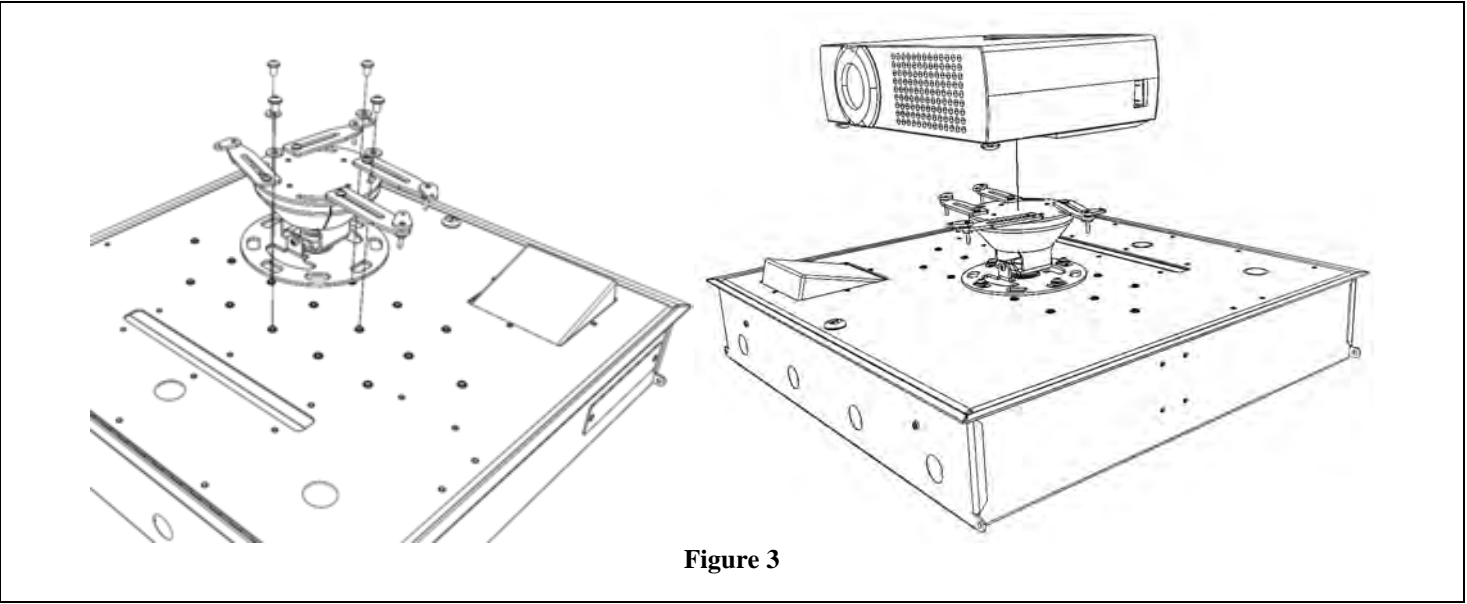

Figure 3
Step 3 - Prior to installing the projector mount find a suitable location for the enclosure to be mounted in the ceiling. There is a pattern of holes on the door that allow you to move the mount from side to side giving the installer several inches of freedom to move the projector if projector screen is not perfectly centered. Install Chief Projector Mount (P/N CHIICPRIA1T03 or SANVMPIR1B) w/ the (4) #10 - 32 screws provided with the mount (Figure 3). For added security, Chief provides a special hex screw that can only be used with the manufacturers hex key.
Step 4 - The Chief Projector Mount has arms that extend to several different positions (Figure 3). Attach the projector to the Chief Projector mount according to the manufacturers instructions (provided with the mount). Make sure not to tighten the screws completely because adjustments may need to be made.